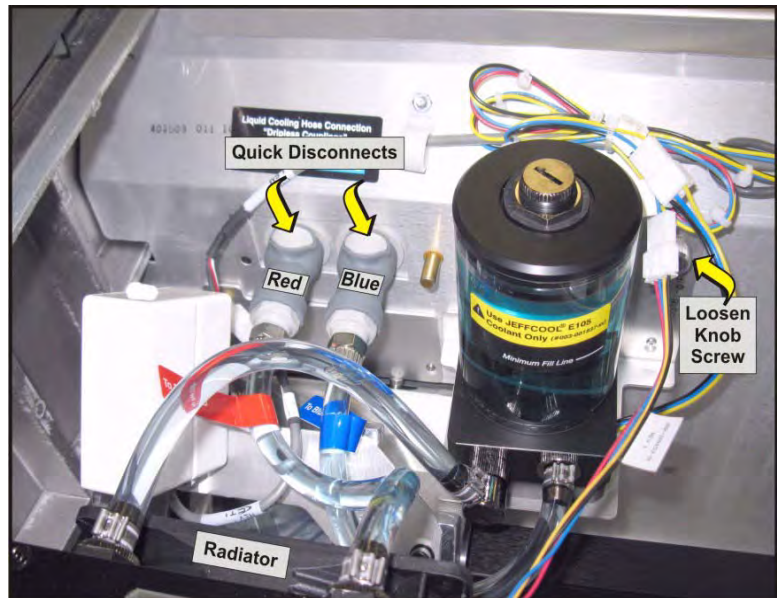

Figure 5-23 Liquid Cooling Assembly
5. Using a stubby #2 Phillips™, loosen the knob screw securing the liquid cooling assembly (**Figure 5-23**).
6. Disconnect the two quick disconnect hoses (**Figure 5-23**).